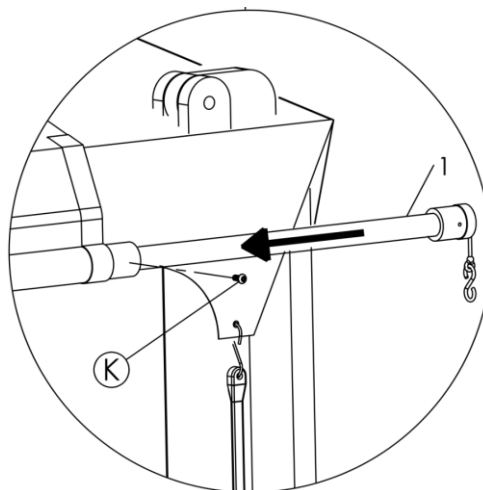

Figure 8
12. **Figure 8.** Insert the tensioner (1) into the rolling pipe.